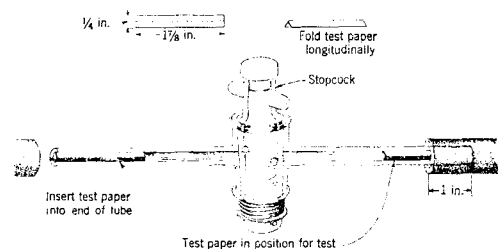

Fig. 2—Positioning Test Papers and Rubber Hoses
- (1) Remove the indicator cover and clean the sight tubes, using a fresh pipe cleaner.
- (2) Remove the brass pin securing the glass valve to the base. The rubber stopper should be removed and the valve cleaned with a fresh pipe cleaner or warm water.
- (3) Lubricate the ground surface of the stopcock with a thin, even coat of petrolatum, then reassemble the indicator.
- (4) The stopcock should be turned to the "OFF" position, ie, with the hole through the valve body perpendicular to the sight tubes.
- (5) Fold two test papers lengthwise and insert one in each sight tube with the tweezers (Fig. 2).
- (6) The ends of the sight tubes should be moistened and the rubber hoses placed over the glass tubes approximately 1 inch (Fig. 2).